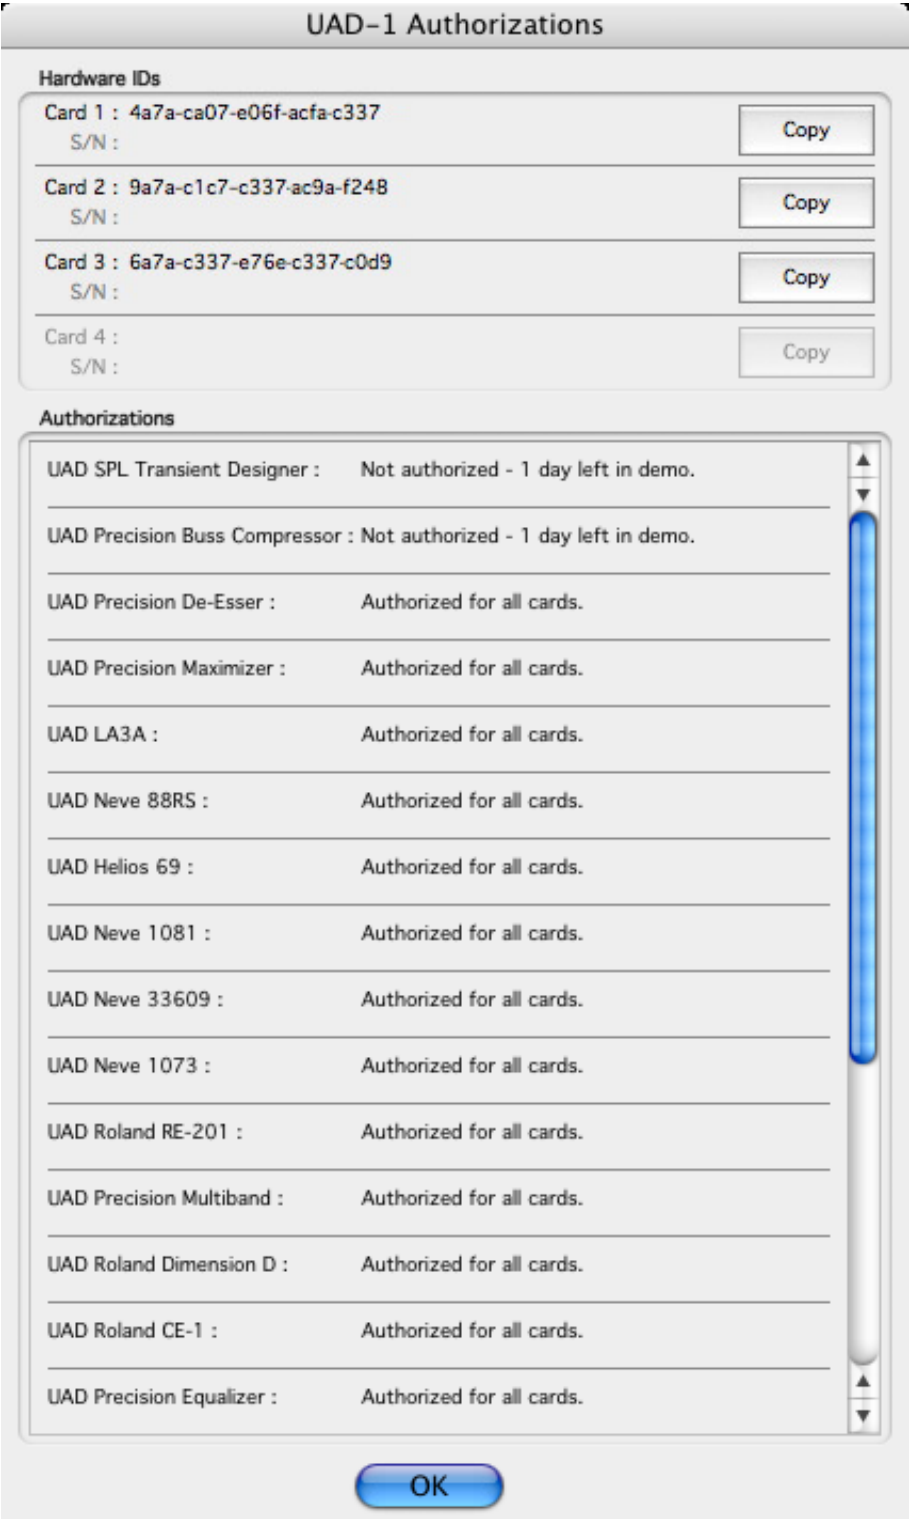
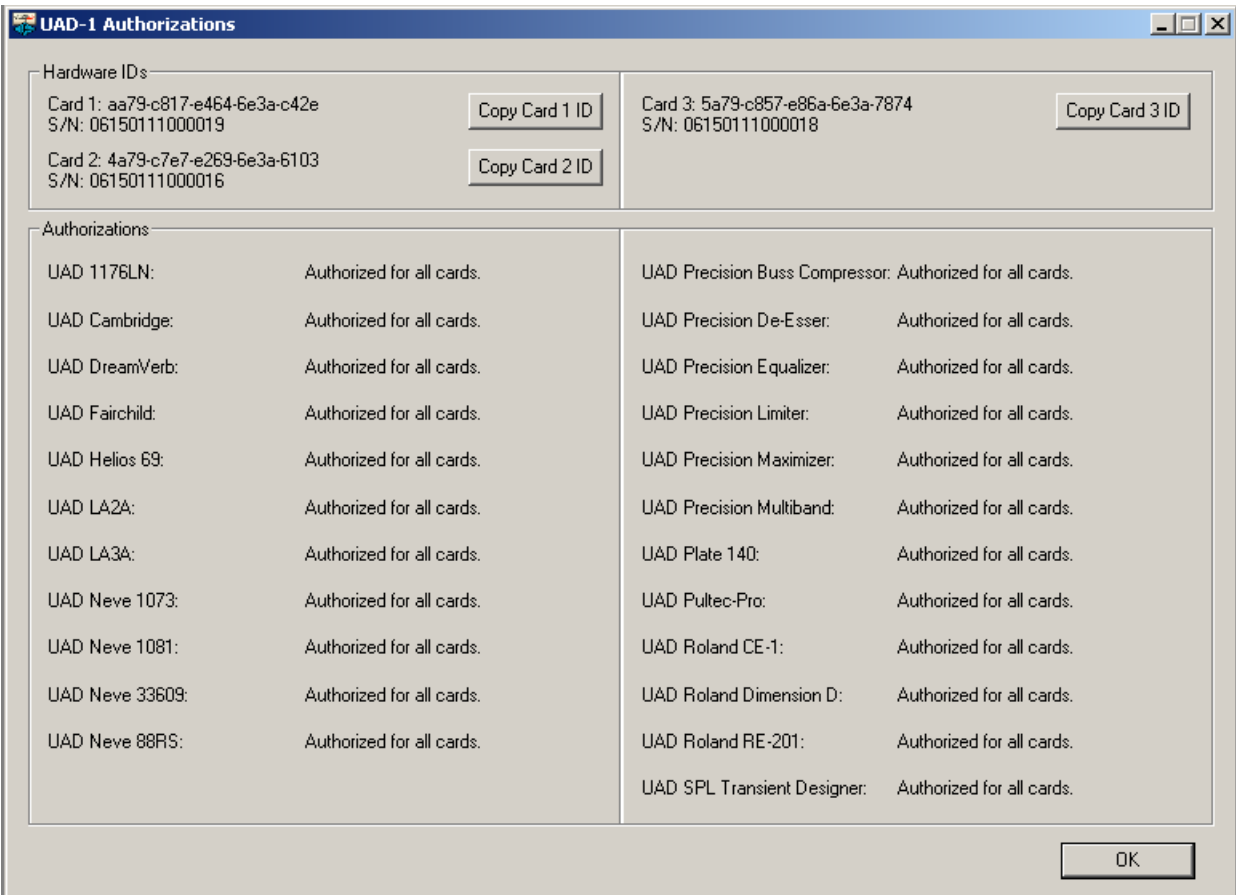

Figure 17. The UAD Authorizations window (Mac OS)
Figure 18. The UAD Authorizations window (Windows)
The Authorizations window (Figure 17, Figure 18) is accessed from within the UAD Meter application.
4. When the UAD Meter is in the foreground, select “Authorizations...” from the System Menu (Windows; page 37) or File Menu (Mac OS; page 38). The Authorizations window (Figure 17 on page 74) appears.